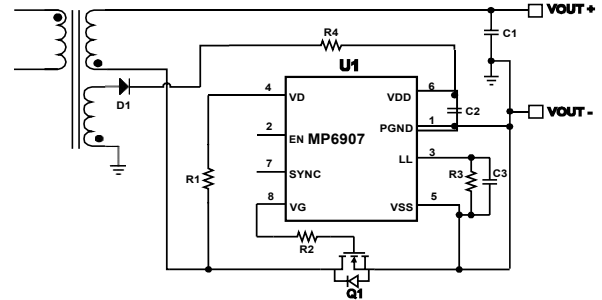
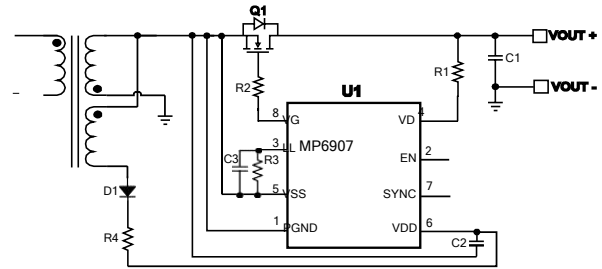

Figure 10: IC Power Derived from the Auxiliary Winding in Low-Side Rectification
Figure 11: IC Power Derived from the Auxiliary Winding in High-Side Rectification
If the output voltage is out of the VDD operating range or high-side rectification is used, an auxiliary winding solution for the IC's power supply is recommended (see Figure 10 and Figure 11). The auxiliary winding turn count (N_{au}) can be set using Equation (2):